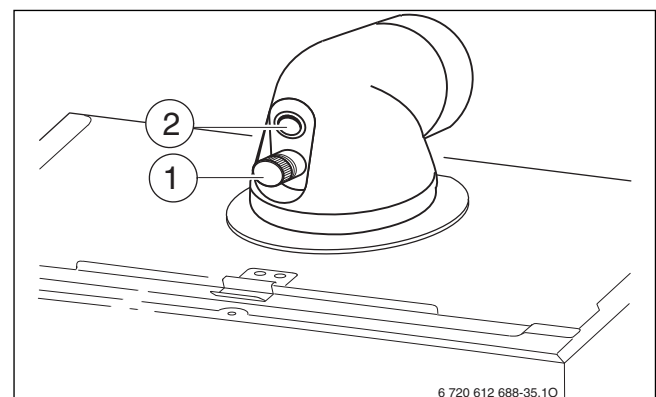

Fig. 54
- ▶ Remove sealing plug from combustion air testing point (2, → Fig. 54).